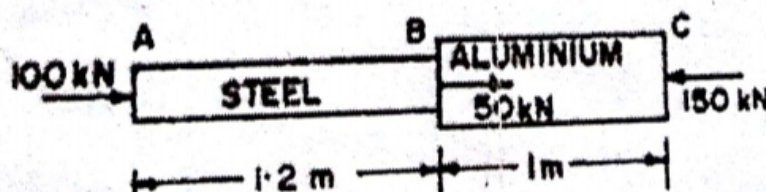

Figure. 1
- A member ABC is formed by connecting a steel bar of 20 mm diameter to an aluminium bar of 30 mm diameter, and is subjected to forces as shown in Fig. 1. Determine the total deformation of the bar, taking E for aluminium as  $0.7 \times 10^5$  N/mm2 and that for steel as  $2 \times 10^5$  N/mm2. Also find the stress in aluminium bar.